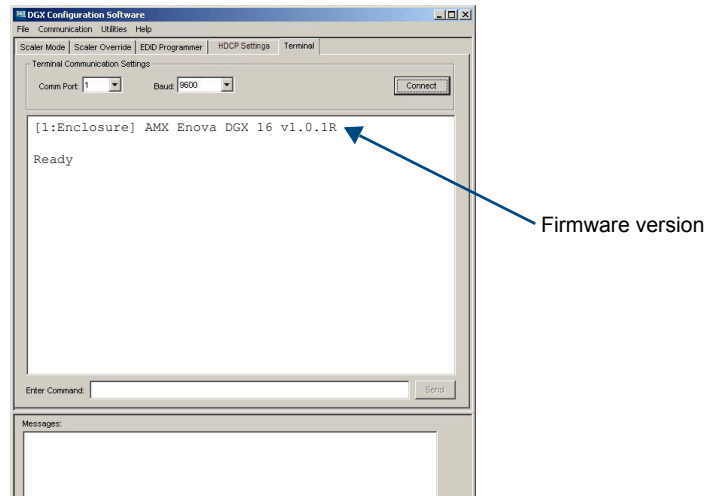

FIG. 118 Power-up splash screen in DGX Configuration Software's Terminal view
- At system boot, the `~scrvi1` setting is displayed (FIG. 118 on page 214).